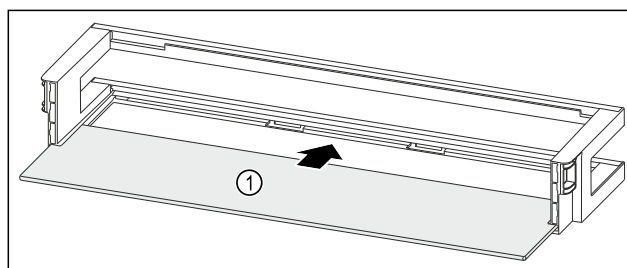

Fig. 102 Door rack with shelf
- Push the shelf Fig. 102 (1) into the side recesses.